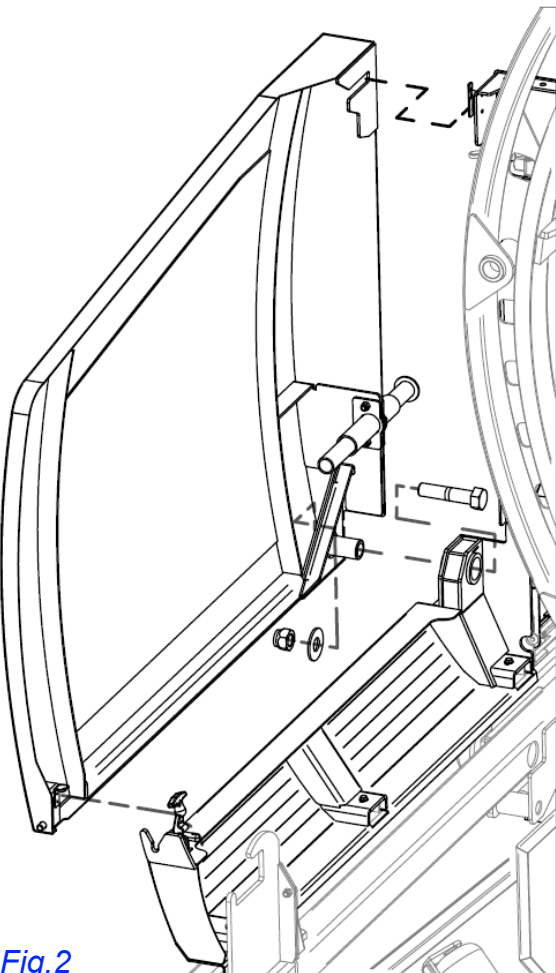

Fig. 2
4. Install left safety guard by bolting at pivot point. Do not over tighten. See *Fig. 2*.